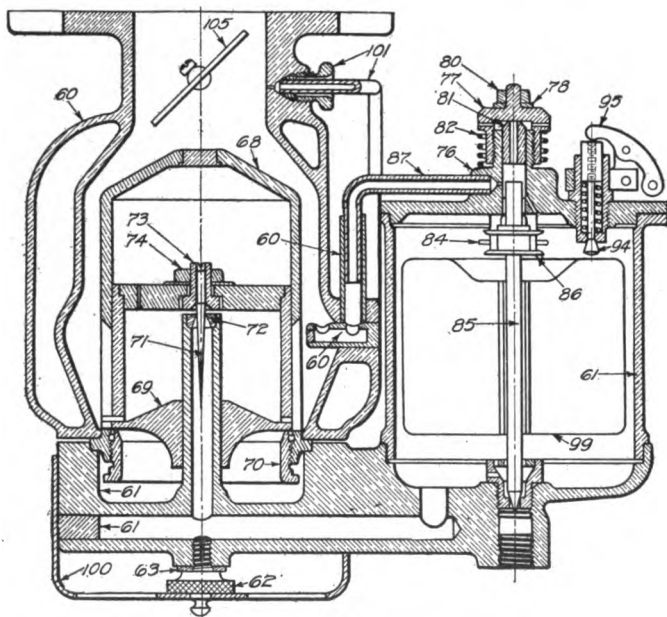
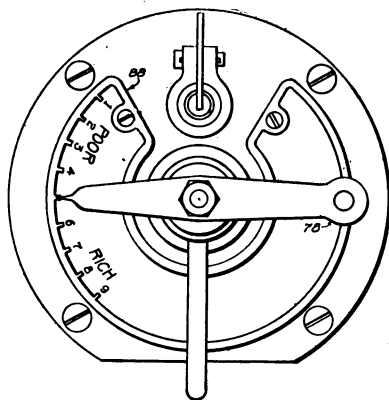

Fig. 106. Section through Newcomb Carburetor
Fig. 107. Sketch of Regulating Pointer on Newcomb Carburetor
shown in Fig. 106, the hot-water-jacketed vaporizing chamber will be noted at the left. In the center of it is the hollow plunger 69, which works up and down in the plunger chamber 68. The top portion of the plunger has the needle holder 73 held in place by the lock nut 74. The hollow plunger 69 surrounds a tube at the top of which the fuel nozzle 72 is located. The fuel controlling needle 71 is fixed in the needle holder 73 and projects through this nozzle down into the central fuel well. This is connected by a horizontal passage at the bottom to the lower part of the float chamber, seen at the right,
etched; the 1 end being marked poor, and the 9 end rich, as shown in Fig. 107. On the top center of the float chamber is a regulating cap 77, Fig. 106; attached to the top of it is the regulating pointer 78, which traverses the arc shown and in this way indicates the quality of the mixture being formed with that setting. This pointer, shown as straight, but having two bends, from a horizontal to a vertical and back to a horizontal at the scale, has a small
hole at one end to which a dashboard controlling lever can be attached, thus a quick and easy adjustment can be obtained. This pointer, which carries with it the regulating cap 77, Fig. 106, adjusts the degree of vacuum above the gasoline in the float chamber and this holds back or partially restrains the flow of fuel to the nozzle. When turned to poor, the vacuum is increased, and the flow of fuel is reduced, giving a weaker, or leaner, mixture. When turned to rich, the vacuum is reduced so the fuel flow is increased and results in a richer mixture. This effect is felt throughout the range of throttle opening and thus throughout the speed range. It is used also to compensate for changes in temperature, altitude, and varying fuel densities. This vacuum arrangement replaces the usual change of area of the fuel opening in other carburetors.
*Adjustments.* There are but two adjustments: the load-carrying adjustment controlled by the pointer 78 and cap 77 just described; and the idling adjustment controlled by the regulating collar 70, mentioned previously, and shown in Fig. 106. Contrary to the usual method, the load-carrying adjustment is made first, and the low-speed, or idling, adjustment is made last. To make the load-carrying adjustment, set the throttle in the special starting position as described, turn the regulating pointer to the rich position on the dial, then screw the slow-speed ring, or regulating collar, 70 as far up as it will go. This is the rich position of the ring for starting only. Flood the carburetor by means of the tickler 84 until gasoline appears on top of the float chamber. Then start the motor and immediately move the throttle to a running position, otherwise the motor will stall.
ment is much the same in principle, but instead of the pointer on top of the float chamber a lever hung in a vertical plane works upon a pin "A" between the float chamber and body, this by its position governing the amount of vacuum above the fuel, and thus, its flow. The starting device is similar to the pipe 101, Fig. 106, but the fuel is broken up by the knurled edge of a pulverizing ring in the throat above the throttle, the knurling doing the actual work of pulverization.